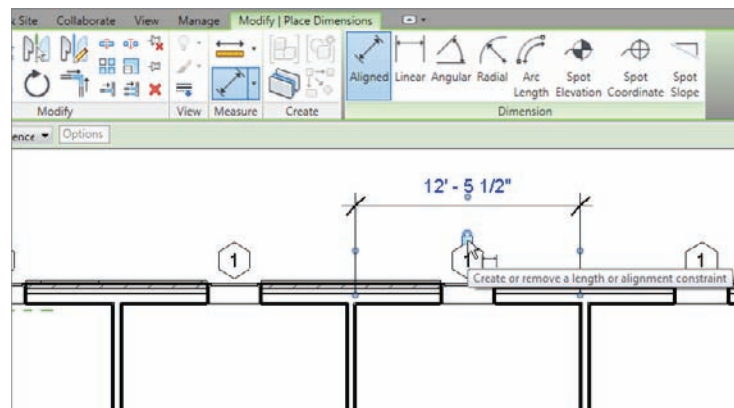

FIGURE 5.35 You can add a dimension and lock the distance between two items.
3. Pick the inside faces of the two middle partitions, as shown in the upper-left corner of Figure 5.35.